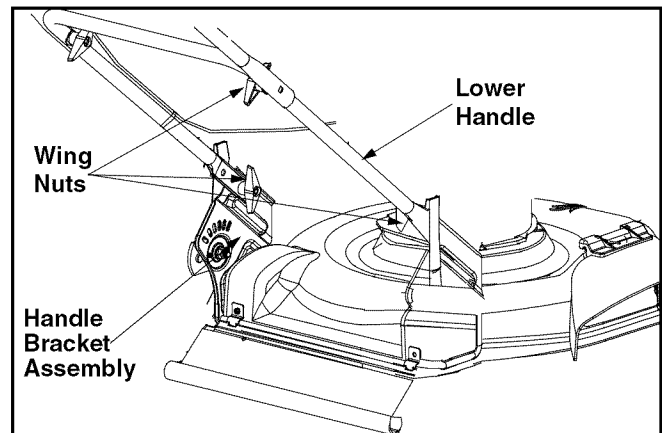

Figure 2
- To secure the upper and lower handle, tighten the wing nuts near the top of lower handle (carriage bolts must be seated properly into the handle). Tighten the wing nuts at the end of the lower handle to secure the handle to handle bracket assemblies. See Figure 2.